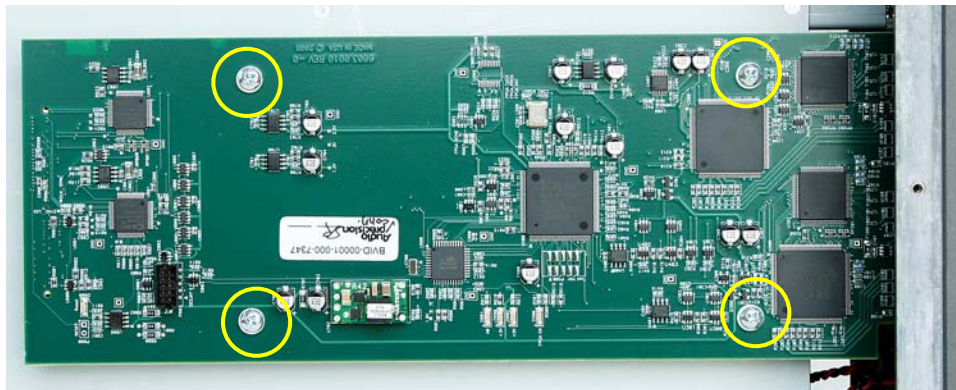

Figure 2 BVID circuit board screws
3. Remove the four screws that secure the HDMI circuit board (BVID), as shown in figure 2.